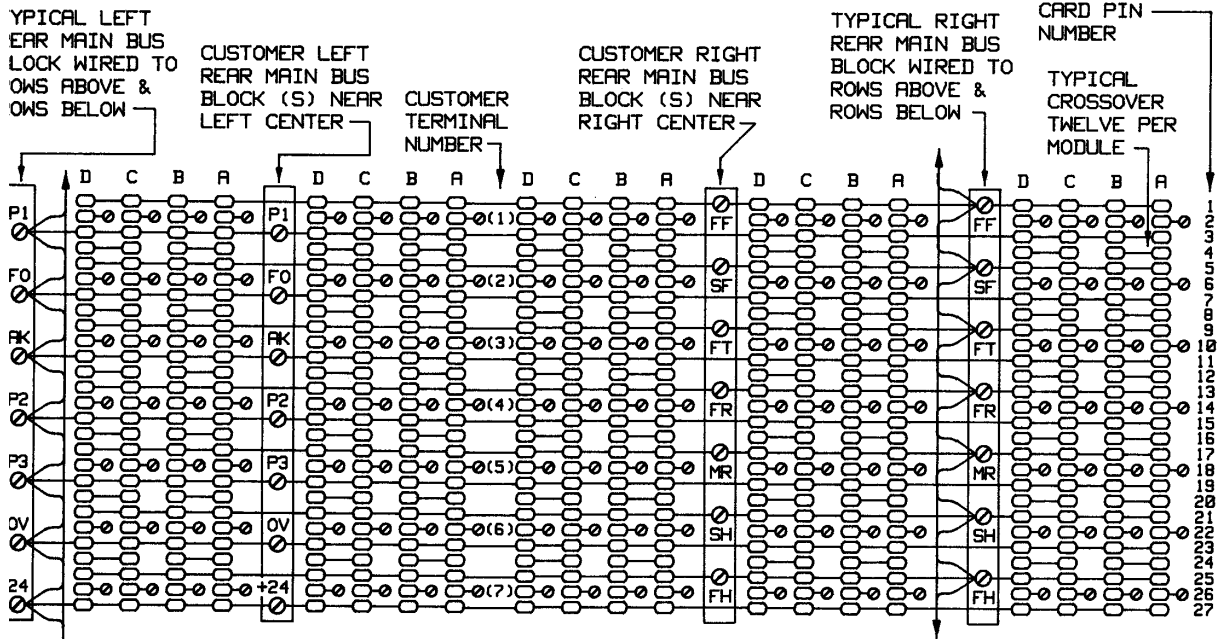

FIG. 1
1.5.1 BUSING (See Figure 1)
1.5.2 MAIN BUS BLOCKS (See Figure 1)
1.5.3. CUSTOMER TERMINALS (See Figures 1 and 2)
1.5.4 CROSSOVER TERMINALS (See Figure 1)